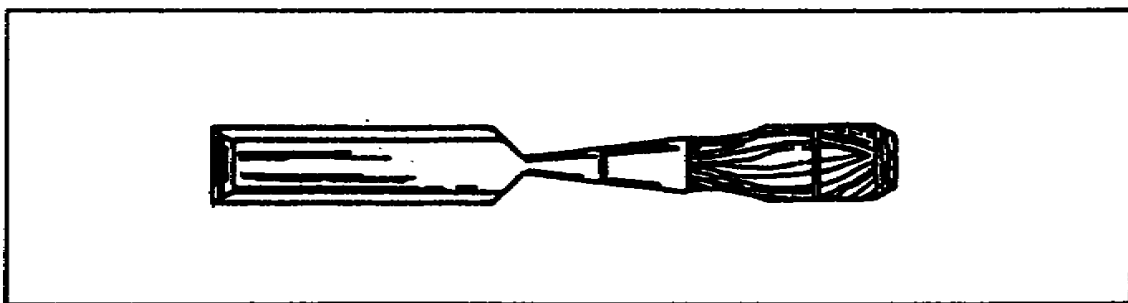

Figure 2-18. Firmer chisel
(2) **Firmer Chisel.** The *firmer* chisel (Figure 2-18) is more substantial tool than the paring chisel. It is usually used for routine work, but may be used for paring or light mortising. When paring, drive the chisel by hand pressure. For light mortising, use a mallet.